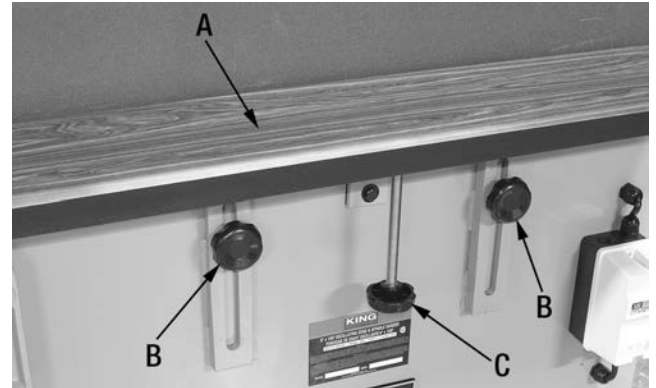

FIGURE 4
- 1) Locate the front main table (A) Fig.4 inside the enclosed cabinet.
- 2) Loosen and remove the two lock knobs (B) on the front of the cabinet.
- 3) Install the front main table to the cabinet using the removed lock knobs as shown in Fig.4.
- 4) Thread the table height adjusting knob (C) into the bracket under the table.
- 5) To adjust the height of the front main table (A) Fig.4, loosen the two lock knobs (B) and turn the height adjusting knob (C) to raise or lower the table.